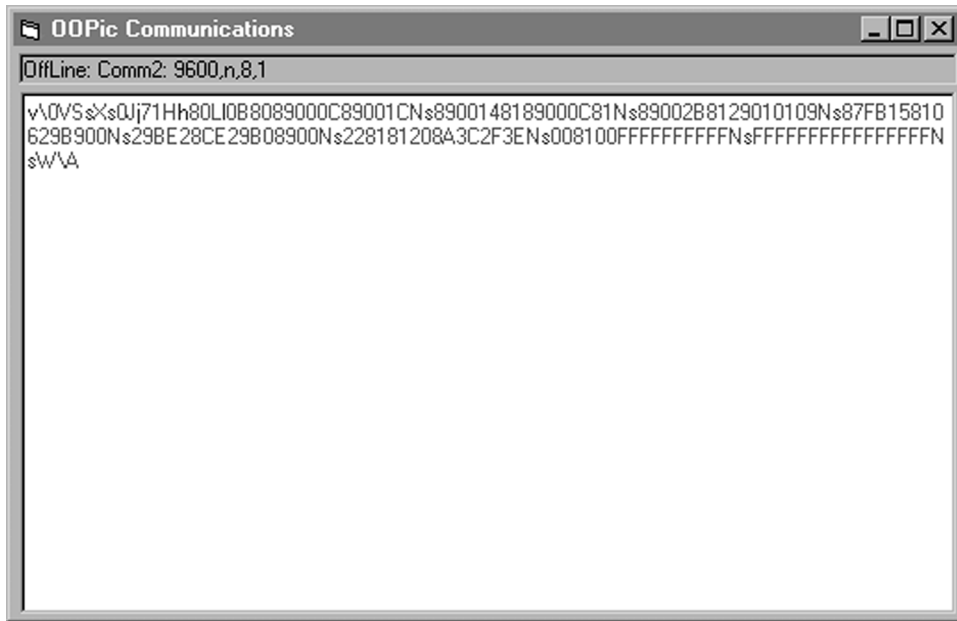

Figure 11-5 Communications Control window after a download
3. Download the program to the OOPic R. The Communications Control window will have new text in it that looks like Figure 11-5.
After you clean up the output shown in Figure 11-5, which involves basically placing all the individual commands on their own lines and removing the SCP replies (the lowercase letters), you end up with Listing 11-7, which you can convert into a download program.